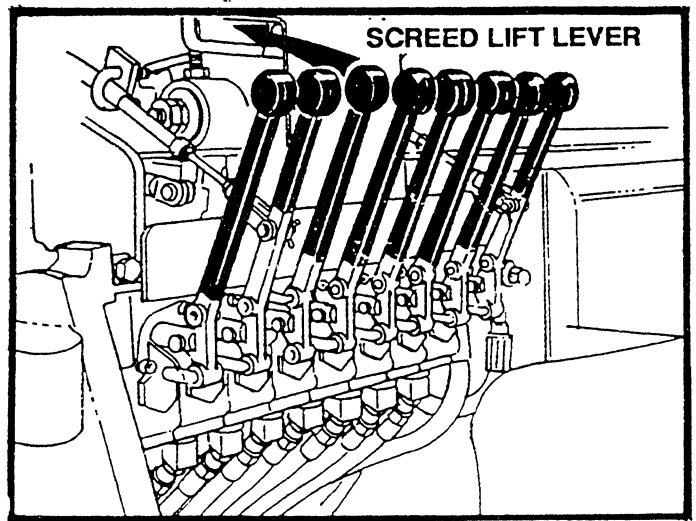

FIGURE 25
5. Push screed valve lever all the way forward into float position. This will take the hydraulic pressure from the cylinder, allowing screed to float. See figure 25.